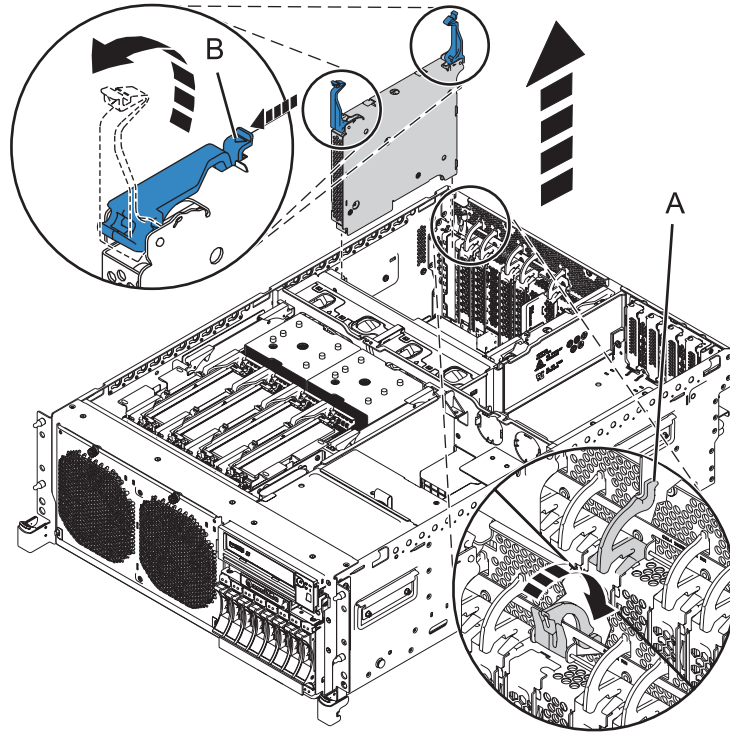
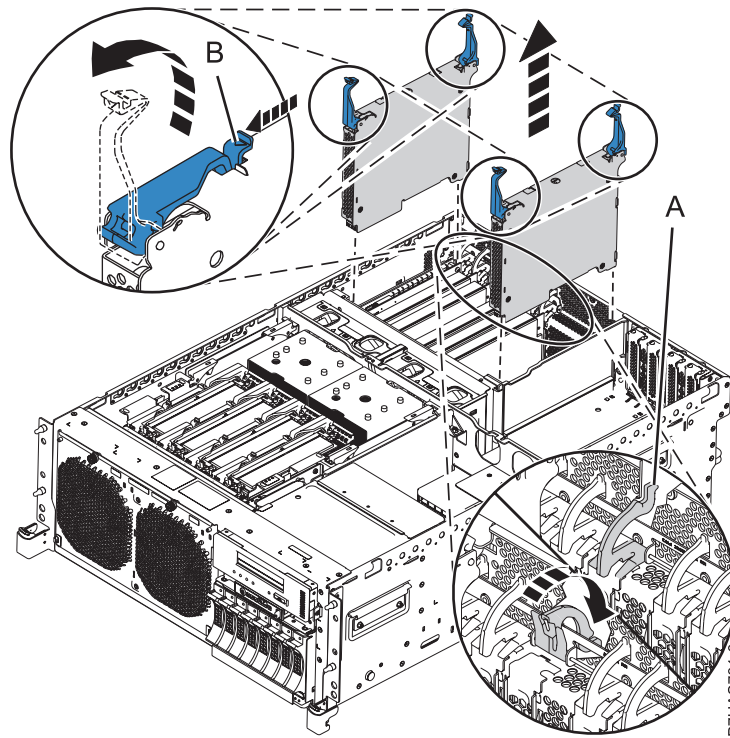

Figure 7. Removing the GX adapter from a rack-mounted 02E/4B or 05F/6B system
Figure 8. Removing the GX adapter (FC EJ03) from a rack-mounted 02E/4C or 05E/6C system
12. With the system in the service position, remove the existing adapter assembly as shown in Figure 7 on page 9 and Figure 8 on page 9. Unlock the latch above the adapter slot (**A**) by pulling the latch toward the back of the system.